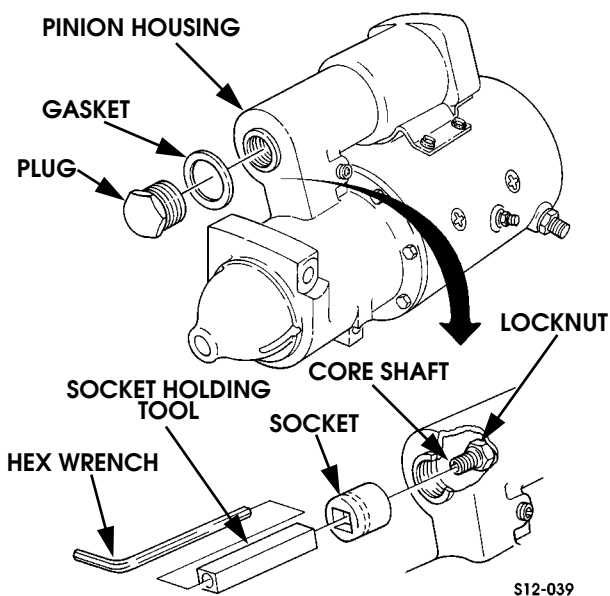

Figure 12-18: Core Shaft Nut Removal
2. Remove plug and gasket from pinion housing (Figure 12-18).
3. Remove core shaft nut with socket, fabricated socket holding tool, and hex wrench (Figure 12-18). Holding tool can be fabricated from suitable size square tube. Or, a suitable size thin wall, deep socket can be used.
27. Install core shaft nut. Tighten nut with socket, fabricated tool, and hex wrench (Figure 12-18)